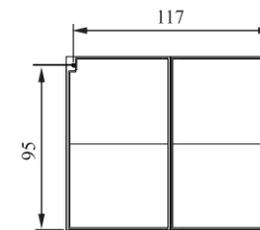
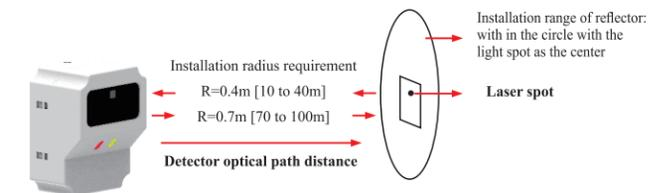

Figure 4
Figure 5
- c) Turn on the beam detector laser for the reflector installation and auxiliary positioning, the installation position of the reflector should be opposite to the beam detector, and located on the same horizontal plane, the installation dimensions of a single reflector are shown in Figure 4(Unit: mm). When the installation distance between beam detector and reflector is 10m~40m, just need install one reflector for beam detector; when the installation distance is 40m~100m, four reflectors need to be installed, the installation diagram of the reflector is shown in Figure 5. The installation of a single reflector requires